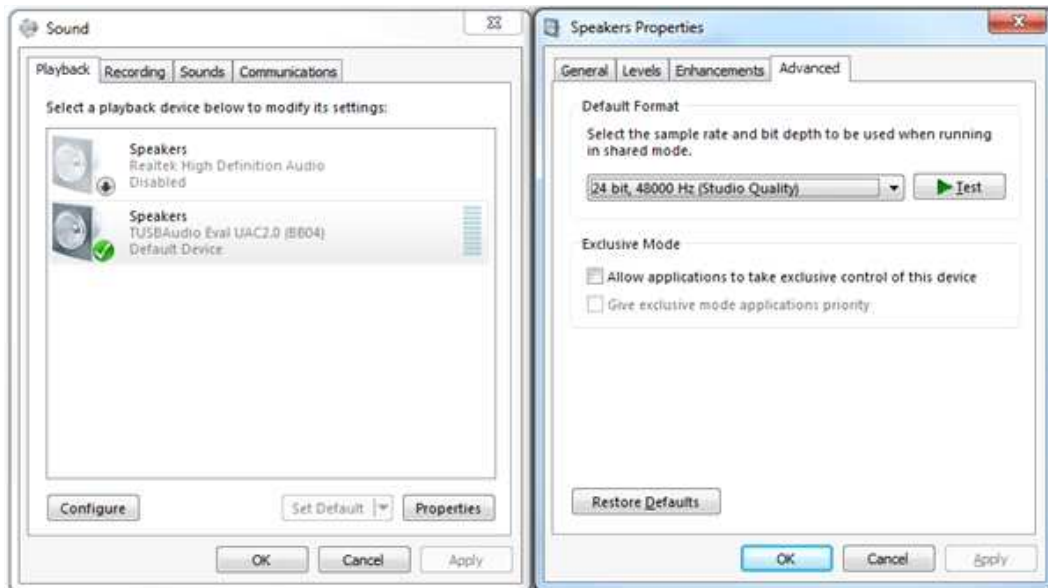

Figure 4. Playback Device Settings
- Verify that the EVM is the default playback device by opening the sound dialog from the Windows Control Panel (see Figure 4).
6. Verify that the EVM is the default playback device by opening the sound dialog from the Windows Control Panel, as shown in Figure 4.